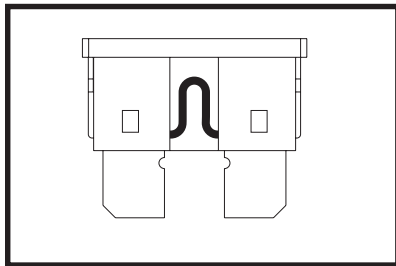

Figure 26. Working Fuse
- Examine the fuse to be sure it is blown. See figures 26 and 27.